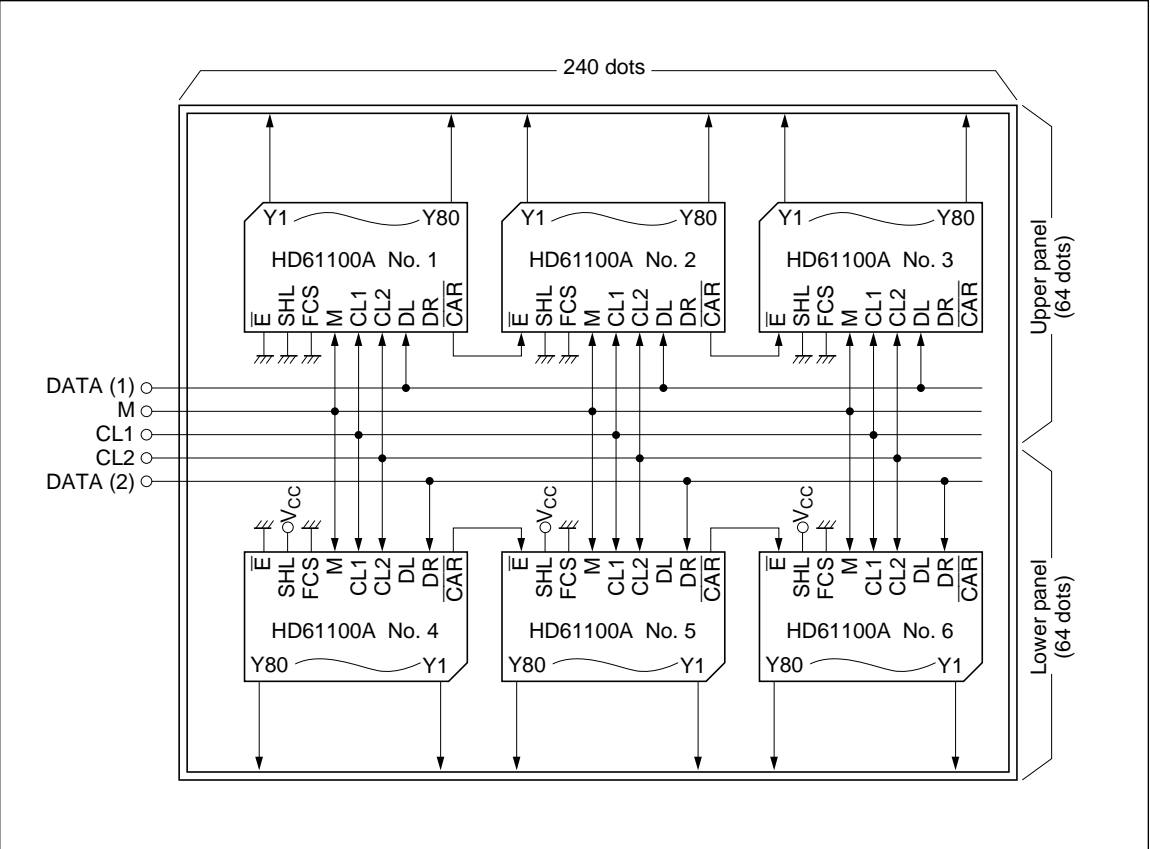

Figure 3 128 × 240 Dot Liquid Crystal Display
The liquid crystal panel (figure 3) is divided into upper and lower parts. These two parts are driven separately. HD61100As No. 1 to No. 3 drive the upper half. Serial data, which are input from the DATA(1) terminal, appear at Y₁ → Y₂ → ... Y₈₀ terminal of No. 1, then at Y₁ → Y₂ → ... Y₈₀ of No. 2 and then at Y₁ → Y₂ → ... Y₈₀ of No. 3 in the order in which they were input (in the case of